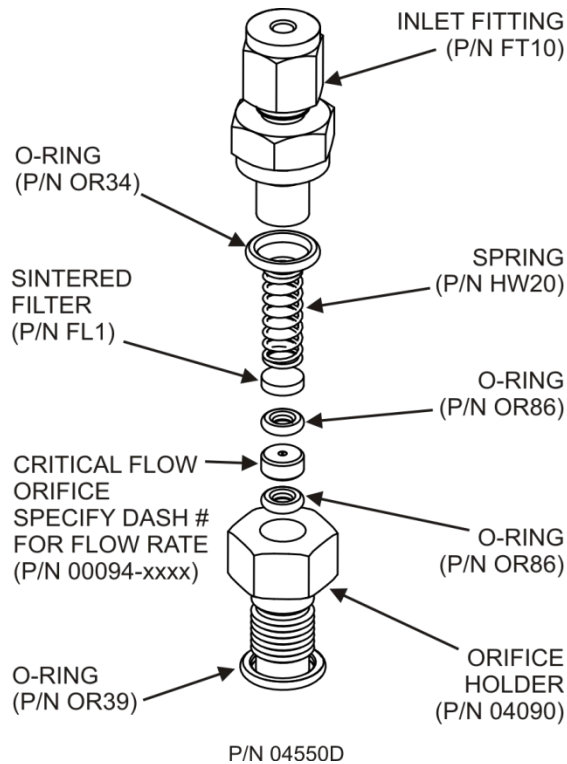

Figure 5-7. Critical Flow Orifice Assembly
8. Using a new filter and o-rings, reassemble the parts as shown in Figure 5-7.